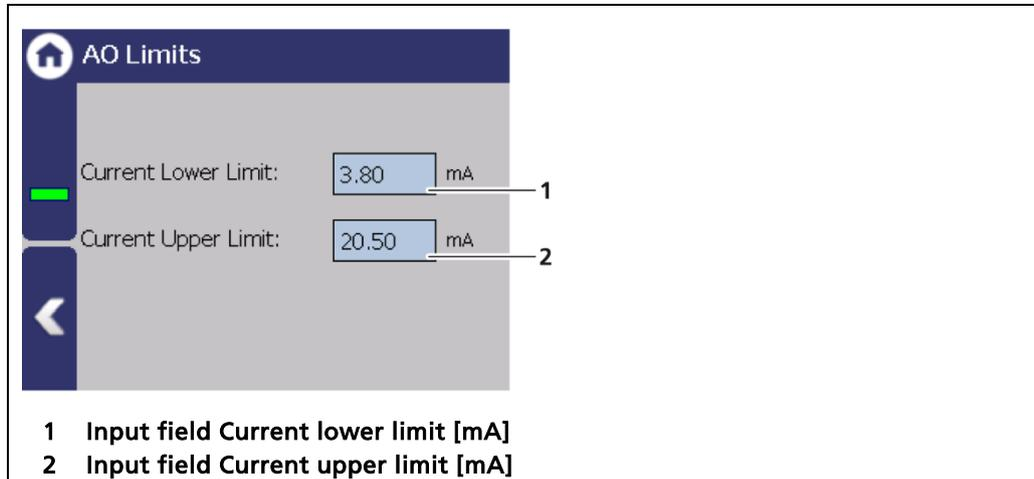

Fig. 96 Analog Output (AO Limits)
The values [mA] for the lower and upper current limit can be set by clicking on the entry fields (Fig. 96, item 1, item 2). Alongside the default value 3.8 mA, the lower current limit can be set to 0 mA to switch the current output from 4 ... 20 mA to 0 ... 20 mA.